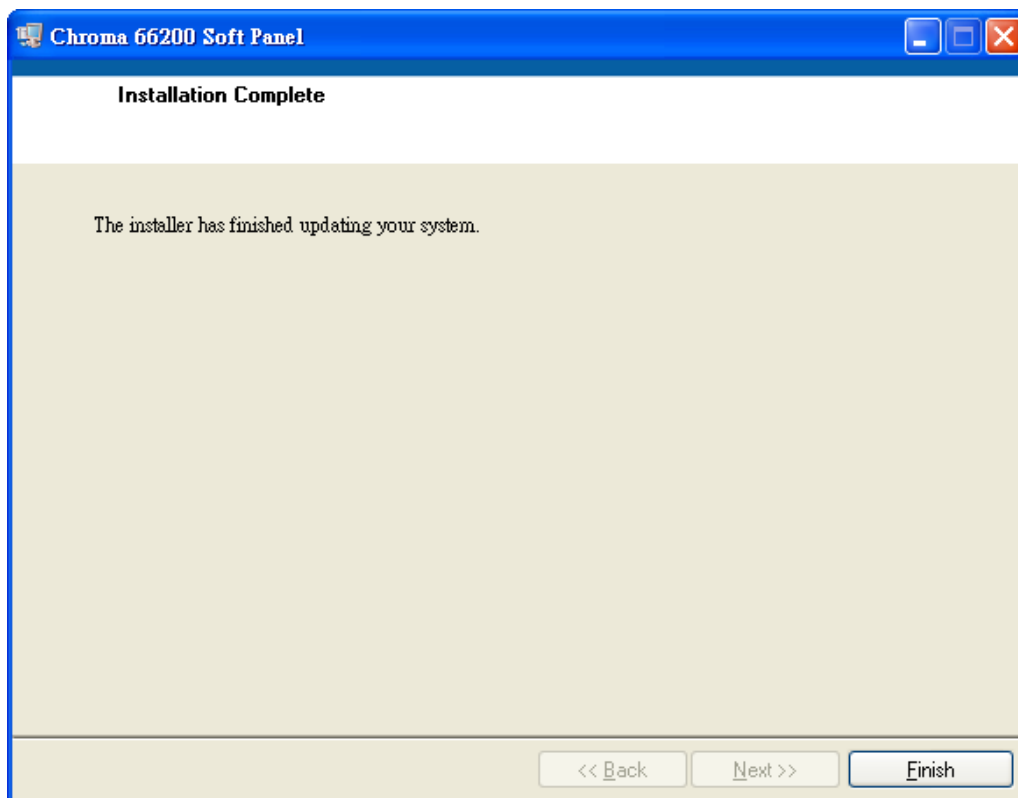

Figure 2-7 Installation Complete Screen
- Once it is done, an installation complete window will prompt as shown in Figure 2-7. Click **Finish** to end the program without reboot the PC.